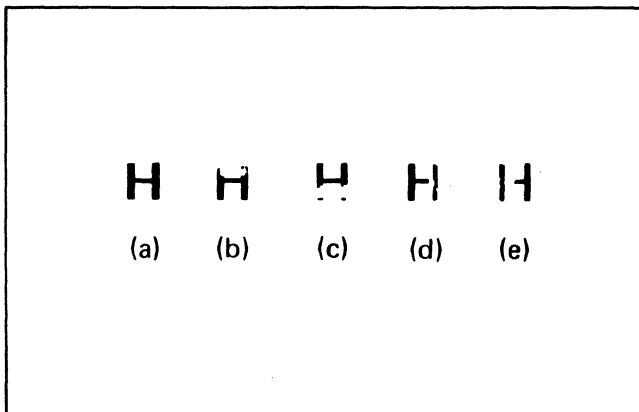

Figure 3-6. Print Quality Standards
- (1) Print a full line of capital letter "H"s.
- (2) Refer to Figure 3-6 and compare the test results with the illustration.